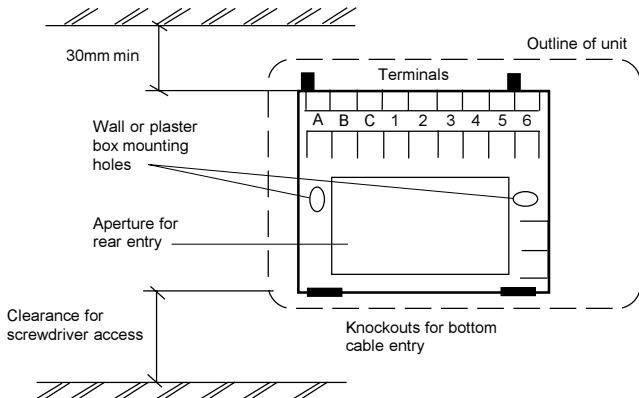

Fig. 3 Wallplate fixing clearances.
- 2. When fixing the heating controller wallplate note that the terminals are at the top and the vertical centre line of the heating controller is at the right hand edge of the terminal 4 recess. Observe the clearance required for fitting and removal, Fig. 3.